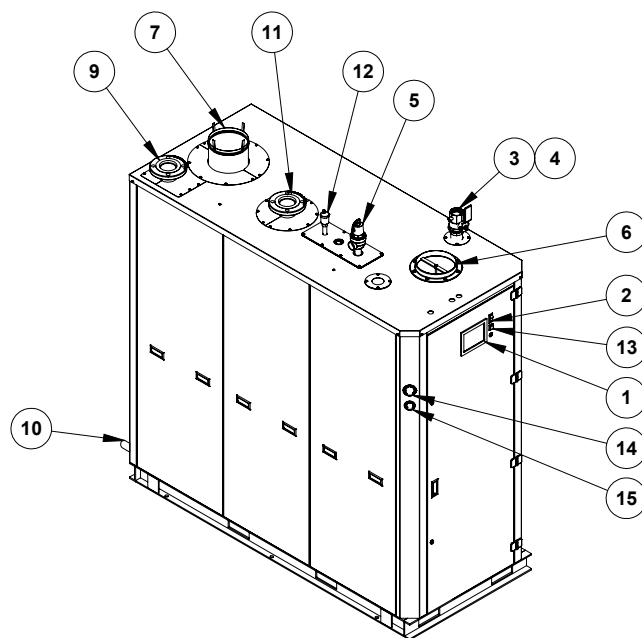
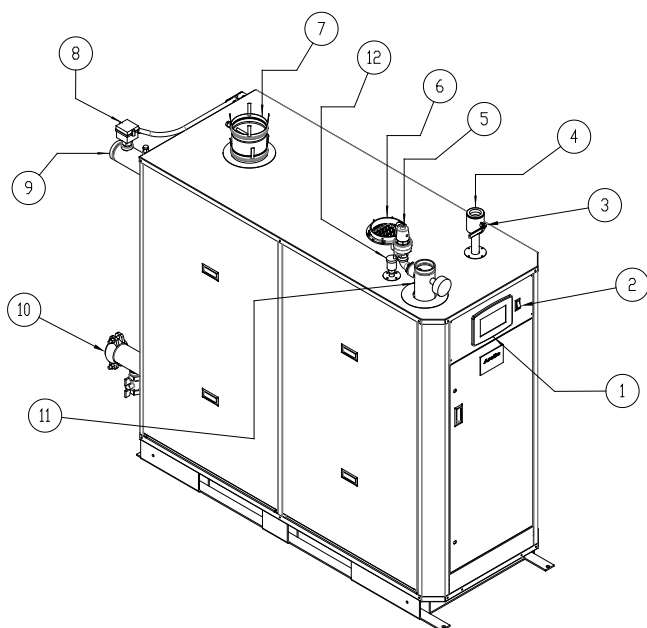
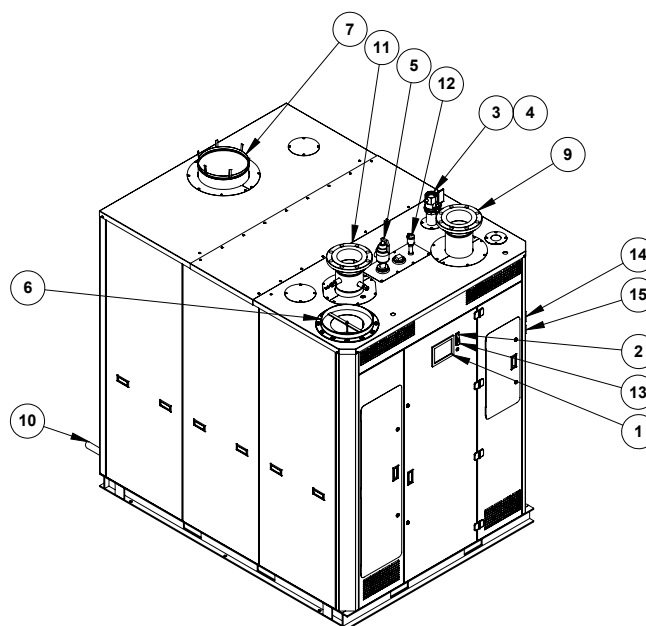

Figure 2: Arctic 1500-3000 External Boiler Connections
Figure 1: Arctic 1000 External Boiler Connections
Figure 3: Arctic 3500-6000 External Boiler Connections
(See Figure 1, Figure 2 and Figure 3)
- a. The system supply and return flow connections are shown on Figure 1. A gate valve should be installed on the boiler outlet and inlet lines. This allows the boiler to be isolated from the heating system for draining and servicing.